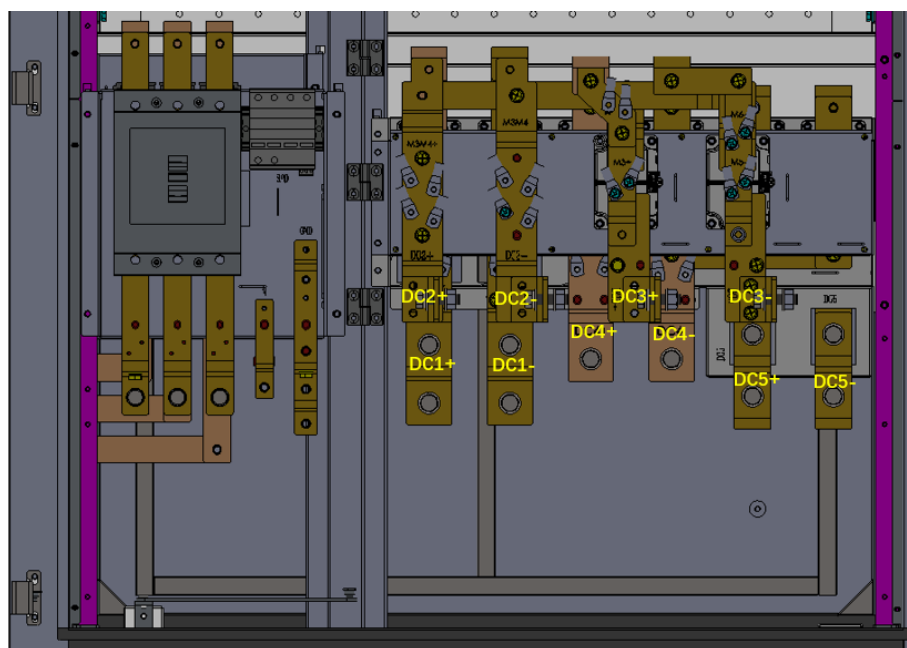

Figure 22 DC+ and DC- copper busbars of the power cabinet
(2) DC copper busbar wiring: There are 5 groups of DC+/DC- outlet copper busbars in the power cabinet as shown in Figure 22 that will be connected to the user unit through the power cable.